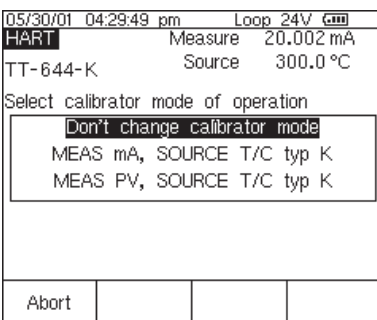

Figure 20
2. Press the **MEAS** key again and you are prompted to select the 744 configuration (Figure 20). Move the cursor to **MEAS mA, SOURCE T/C typ K**, and press **ENTER**. (If you were verifying the digital PV instead of the mA output, i.e., the transmitter has a non-zero HART poll address, you would select **MEAS PV, SOURCE T/C typ K** instead.)